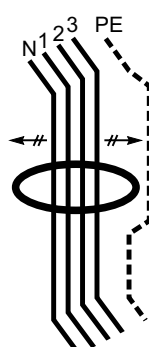

Figure 2.
- Internal diameter of toroid > 1.4 x external diameter of the cable bundle (figure 2).